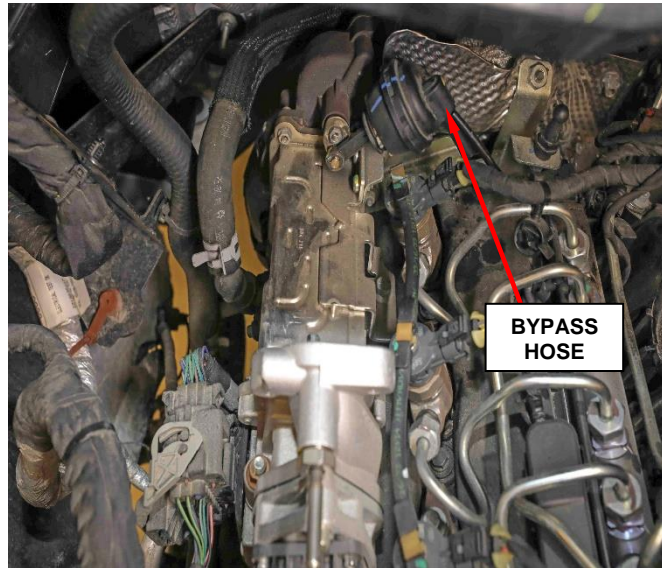

Figure 38 – Vacuum Bypass Hose
14. Disconnect the EGR cooler vacuum bypass hose (Figure 38).
25. Connect the EGR cooler vacuum bypass hose (Figure 38).